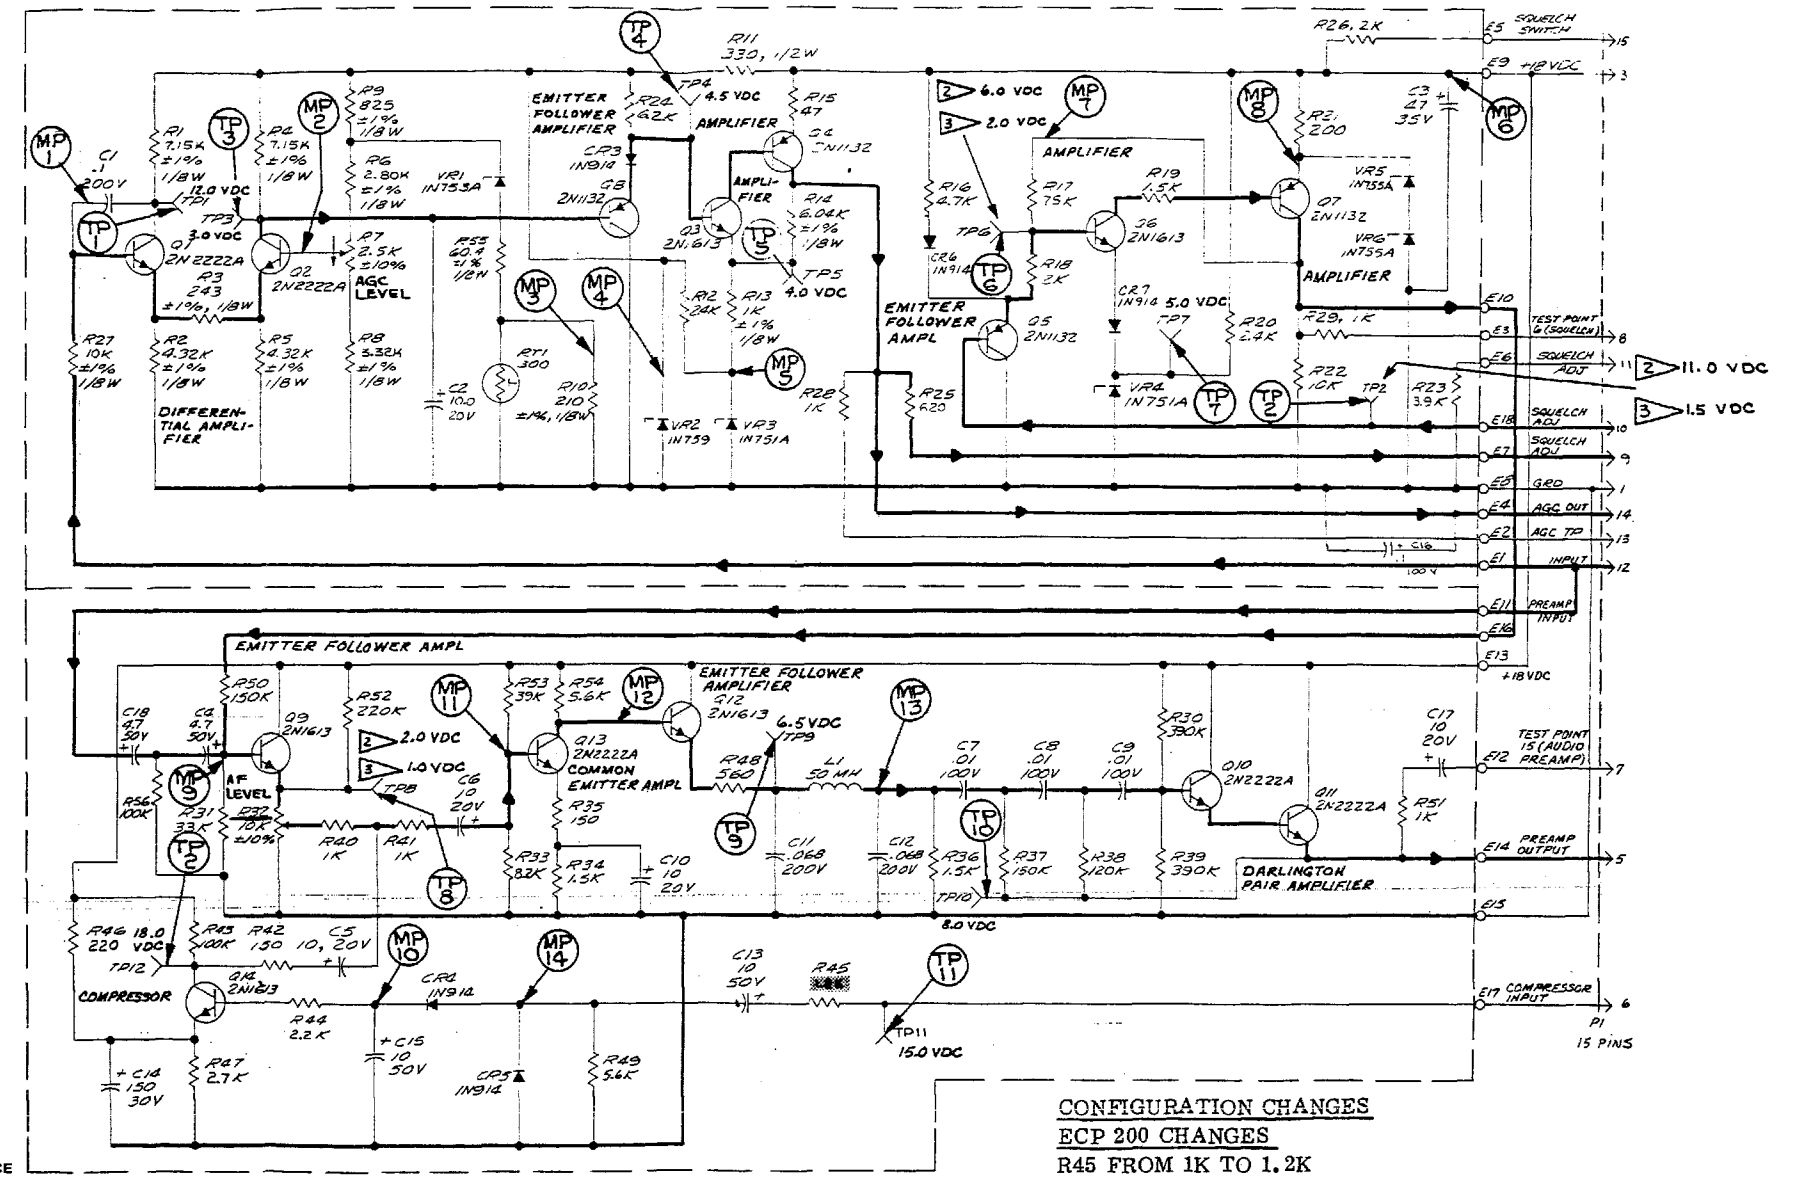

Figure 6-10. Preamp AF/AGC Squelch A3, Schematic Diagram (Early Configuration) (P/N 800423961)
FOR PREAMPLIFIER, AF/AGC SQUELCH SEE FIGURES 6-10 AND 6-10A.
7. FOR PREAMPLIFIER, AF/AGC SQUELCH SEE FIGURES 6-10 AND 6-10A.